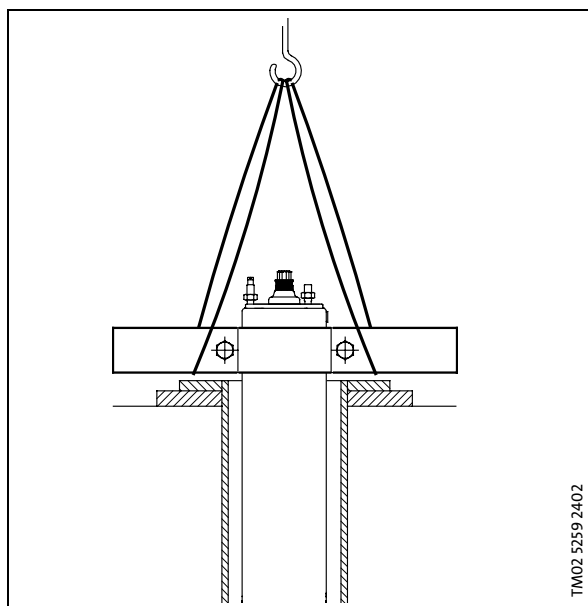

Fig. 1 Handling of submersible motor by means of pipe clamp
2. Place the motor in the vertical position at the borehole seal, see Fig. 1.